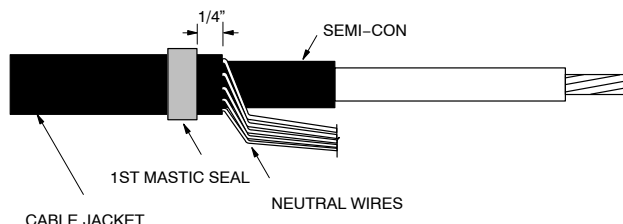

FIGURE 2
3. Select one of the two mastic strips from the kit and remove white release liners. Using light tension apply a single wrap of mastic around the cable jacket 1/4" from the cut edge. Cut off excess mastic. See Figure 2.